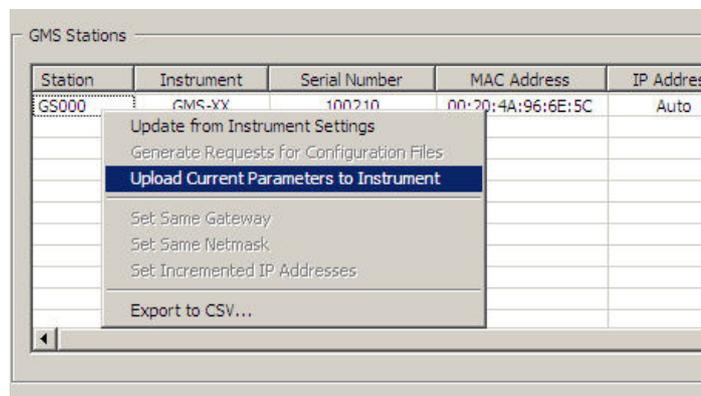

Figure 29. Upload parameters to the instrument
- Make a right click on the station name and select **Upload Current Parameters to Instrument** as shown in the Figure 29.